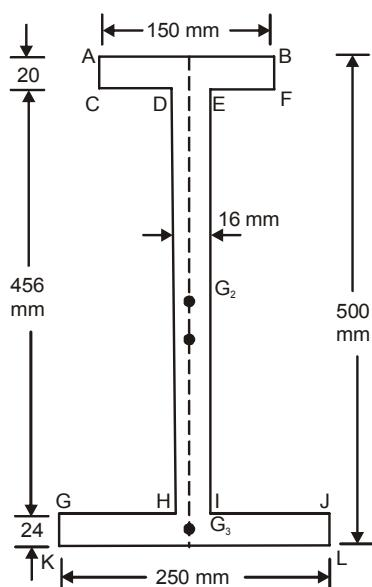

Fig. 3
5. (a) The cross - section of a joist as a T-section, 120 mm  $\times$  200 mm  $\times$  12 mm, with 120 mm side horizontal. Sketch the shear stress distribution and hence find the maximum shear stress if it has to resist a shear force of 200 kN. (25)
- (b) For the I section shown in fig. : 3 determine the position of centroid and moment of inertia about the base flange ( $I_{KL}$ ). (10 + 10 = 20)